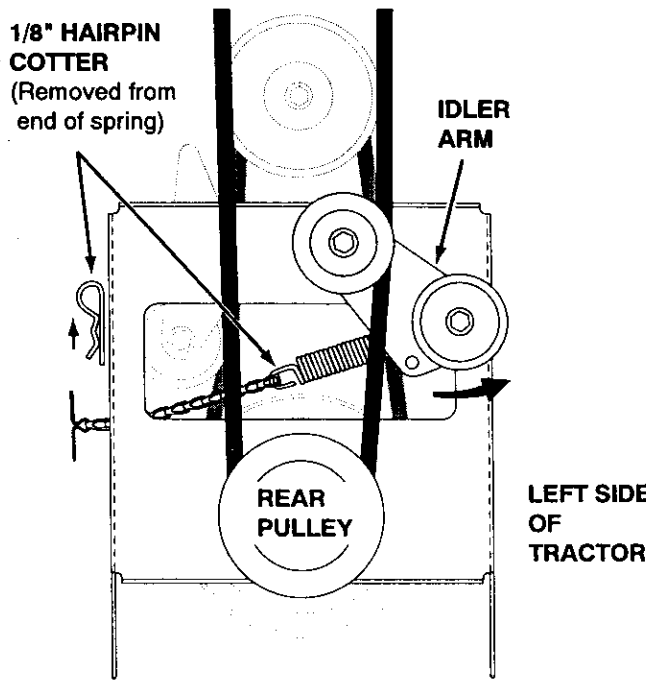

FIGURE 31 VIEWED FROM UNDERNEATH
- Remove the 1/8" hairpin cotter that secures the end of the idler arm spring to the right side of the clutch idler assembly. Swing the idler arm to the left side. See figure 31.
- Place the auger belt around the rear pulley and between the two pulleys on the idler arm. The "V" side of the belt must be seated in the grooves of the "V" pulleys. See figure 31.